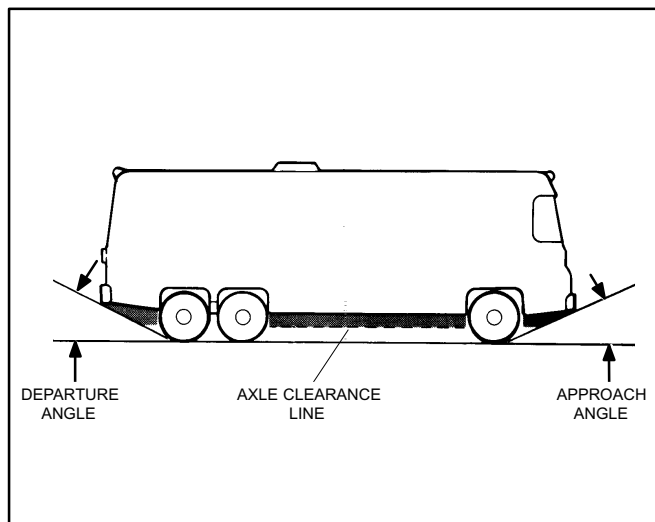

FIGURE 7. VEHICLE CLEARANCES
7. To keep the tailpipe from being damaged, do not route it such that it protrudes into the approach or departure angles of the vehicle or below the axle clearance line (Figure 7).